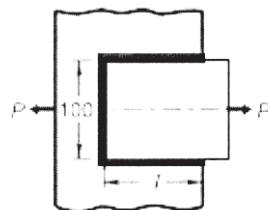

Figure 6
- b)** A steel plate, 100 mm wide and 10 mm thick, is joined with another steel plate by means of single transverse and double parallel fillet welds, as shown in Fig. 6. The strength of the welded joint should be equal to the strength of the plates to be joined. The permissible tensile and shear stresses for the weld material and the plates are 70 and 50 N/mm^2 respectively. Find the length of each parallel fillet weld. Assume the tensile force acting on the plates as static. [12]